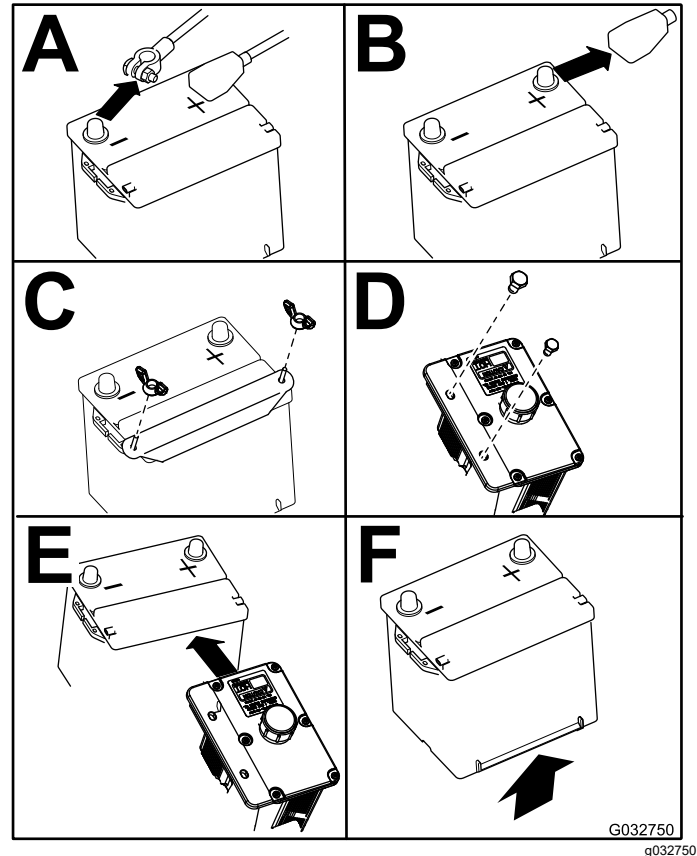

Figure 45
4. Remove the battery as shown in Figure 45.